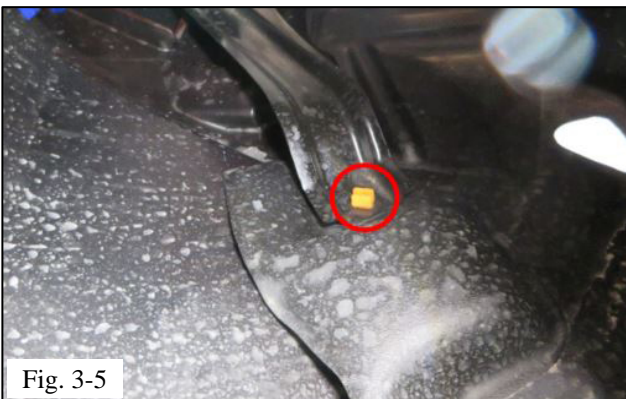

Fig. 3-5
- (g) Locate the orange clip attached to the metal brace and remove the clip (Fig. 3-5).